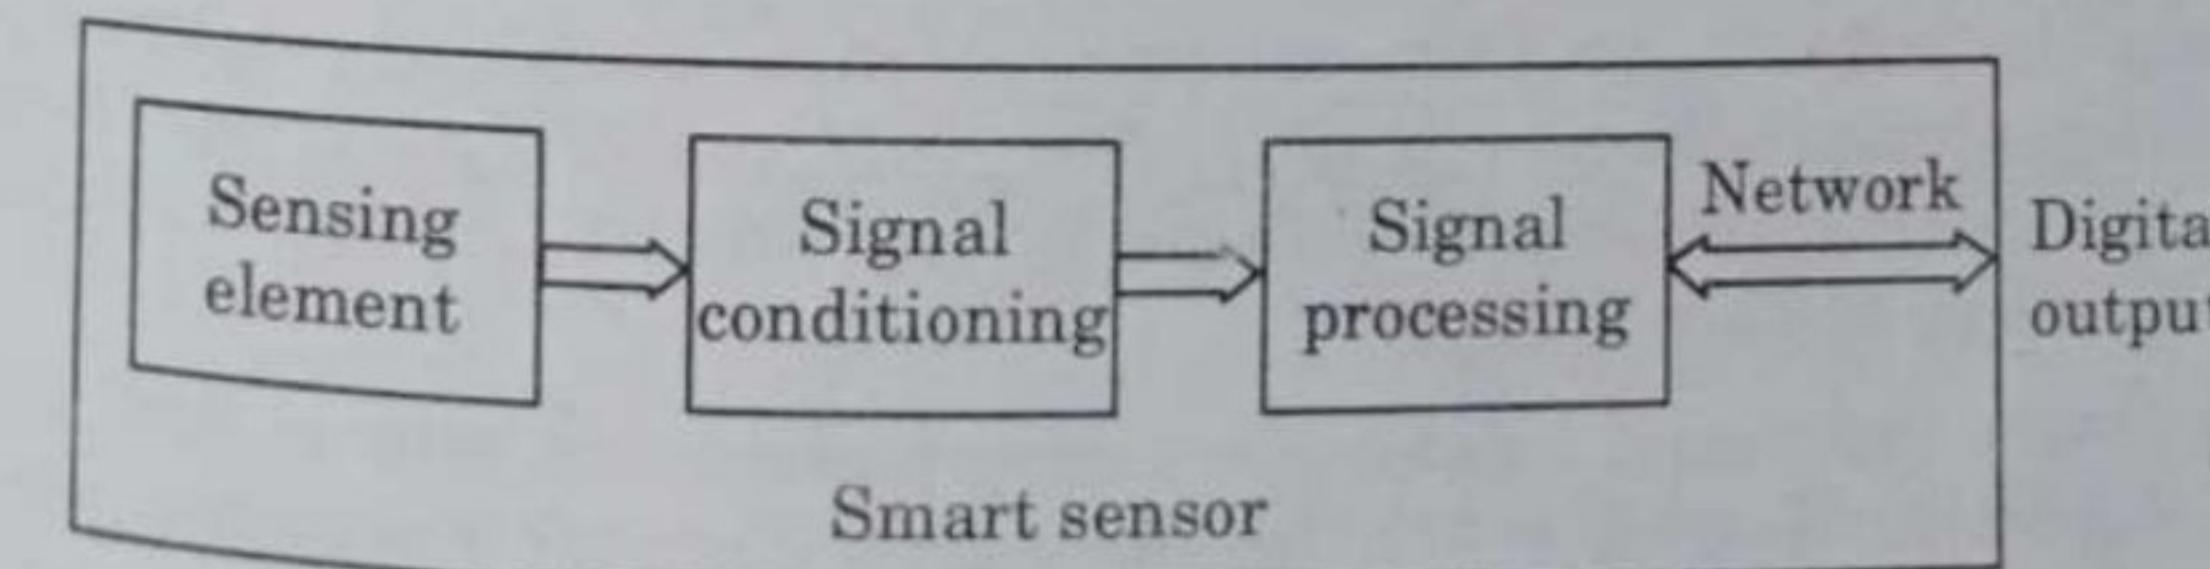

Fig. 5.4.1. Block diagram of a smart sensor.
1. The simple structure of any smart sensor is shown in Fig. 5.4.1. The sensing element and signal conditioning are combined to develop a transduction element.